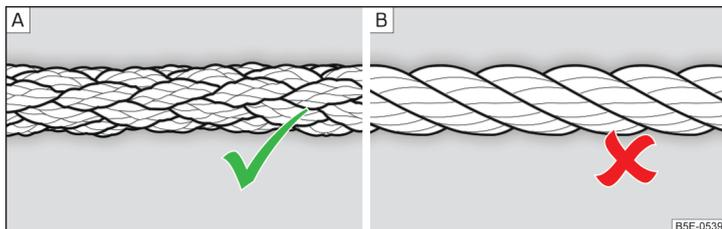

Fig. 328 Braided tow rope / Spiral tow rope
For towing using a tow rope, use only a braided synthetic fibre rope » Fig. 328 - A) » **!**
- Wound tow ropes must not be used for towing » Fig. 328 - B), the towing eye may unscrew out of the vehicle - risk of accident.